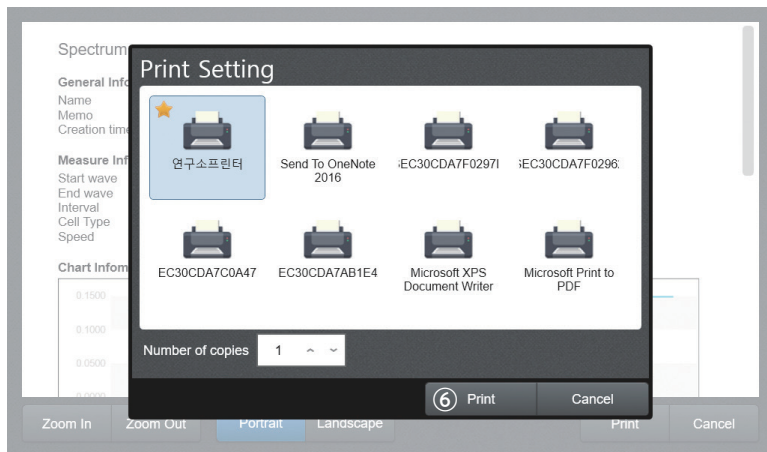

Fig. 5.14
11. [Fig. 5.14] Set the printer and number of pages to print on the printer settings screen.
12. [Fig. 5.14] Press the ⑥ **Print** button to start printing.